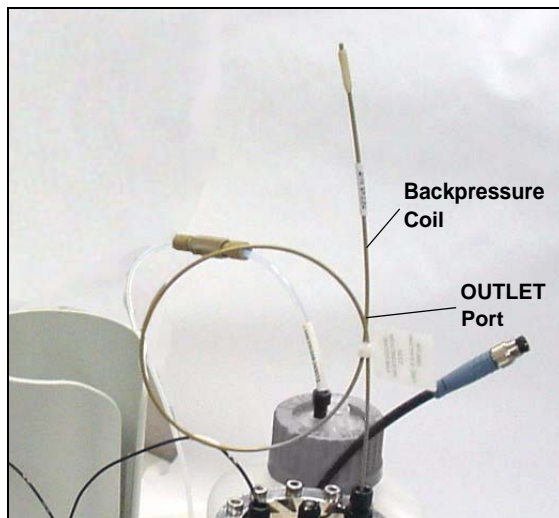

Figure 5-41. EluGen Cartridge Outlet Connection for Conditioning the Cartridge
15. Connect one end of this coil to the EluGen cartridge **OUTLET** port (see Figure 5-41). Leave the other end of the coil unconnected.